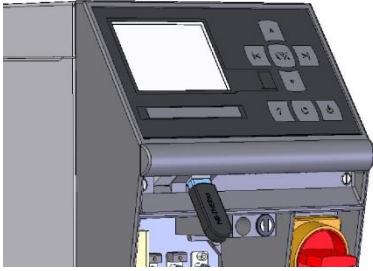

Fig. 72: Connect USB data carrier
2. Connect USB data carrier (Fig. 72).